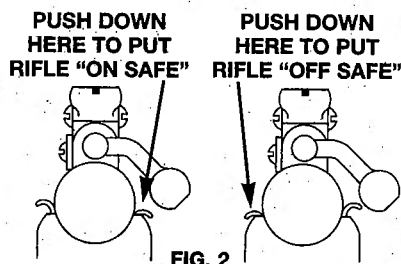

FIG. 2
NOTE: BE SURE THE RIFLE IS "OFF SAFE" BEFORE COCKING (Fig. 2). FAILURE TO FOLLOW THE PROCEDURE LISTED BELOW MAY RESULT IN JAMMING THE FIRING MECHANISM.
**⚠ WARNING: THE RIFLE MUST BE COCKED BEFORE YOU CAN PUT IT "ON SAFE." (Fig. 2)**
- To take the air rifle "Off Safe", push down on the left thumb button marked "F". The airgun is now ready to be fired. (Fig. 2)